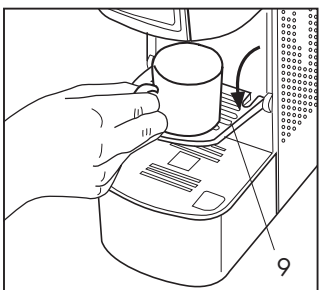

Fig. 6
open the support (9) to prepare espresso coffee correctly and to use small cups **(Fig. 6)**.